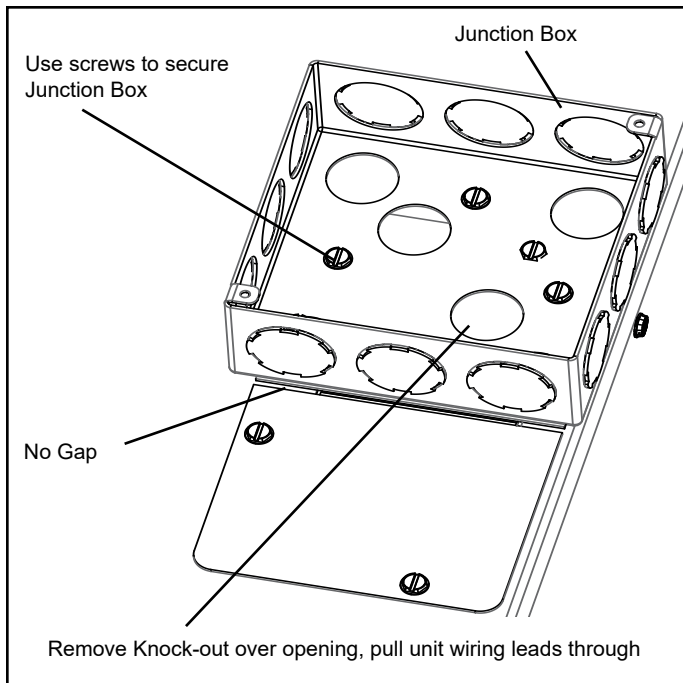

Figure 7.
2. Position a 4x4 junction box over the opening as shown in Figure 7. Make sure the junction box is pulled up against the front cover so that there is no gap. Remove a knock-out in the box to allow the unit wiring leads to extend into the bottom of the box. Pull the leads through the knock-out and into the box. Remove a knock-out for the main power supply leads.